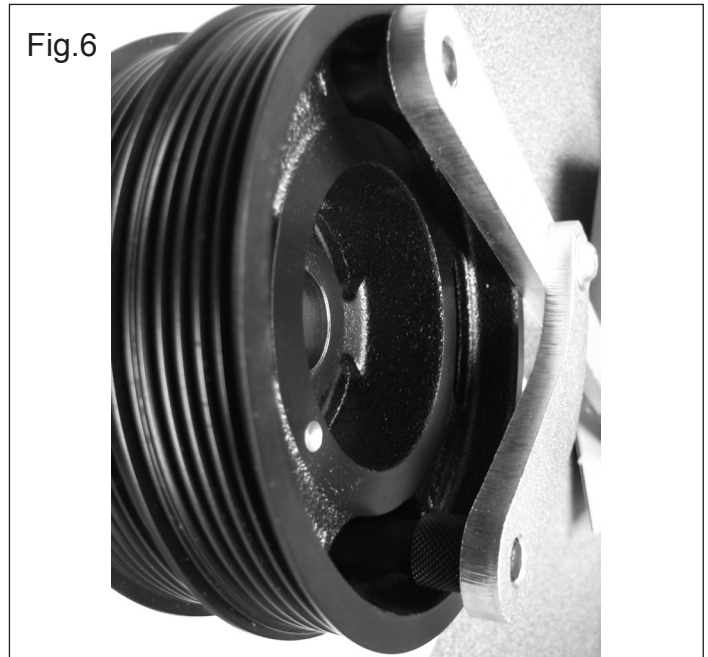

Fig.6
4.2.3 Install the crankshaft pulley, counter-hold pulley with a suitable Holding Tool whilst tightening the centre bolt, in two stages, 45Nm. + 90 degrees. (Fig.6).